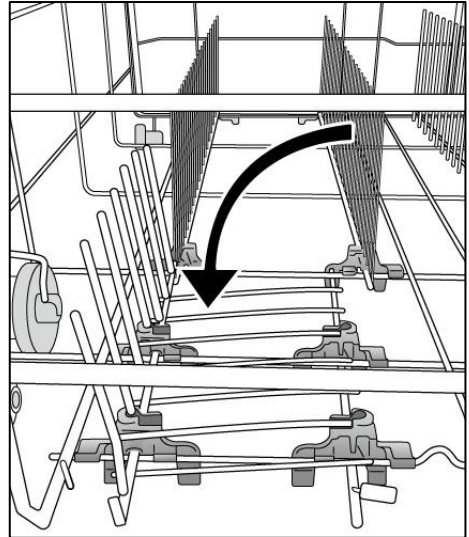

Figure 6
- The outlet hose should discharge into a standpipe, making sure that there are no kinks (fig. 6).
To position the cutlery basket correctly, lower the front foldable racks as shown in fig. 6 to ensure maximum stability.